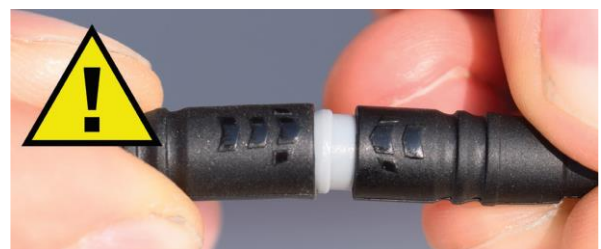

Figure 5: Align connector markings
**Caution:** The ends must be correctly aligned when connecting. Coupling and plug are provided with a mark - align the markings correctly [Figure 5].